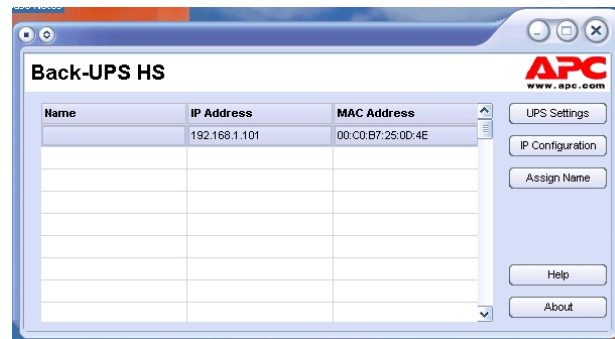
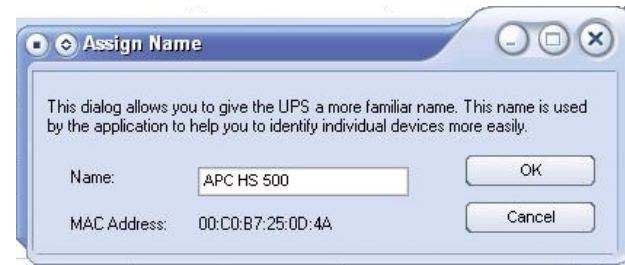

Figure 8. Back-UPS HS IP Address and MAC Address Screen
Figure 11. Assign Name Screen
8. Following installation, the Back-UPS HS software is available in the **Start** menu. Upon launching the program, it searches for all Back-UPS HS devices on the network, and will identify them as shown in Figure 8 by IP Address and MAC Address. The IP Address is automatically assigned to the Back-UPS by the DHCP services from your hub or router. IP Addresses assigned by the DHCP service may automatically change over time. Thus, APC recommends you do not bookmark the IP Address, as you may not be able to access it through your browser. The MAC Address is assigned to the Back-UPS HS 500 at the factory.
10. You can assign a name to the Back-UPS by clicking on the **Assign Name** button (Figure 8) and entering the name in the Assign Name Screen dialog. It will appear in the column to the left of the IP Address of the device (Figure 11). Names should not be duplicated.
13. To change the configuration of the Back-UPS or perform UPS maintenance, you must log on to the web page (Figure 11) by clicking on the **UPS Settings** button.